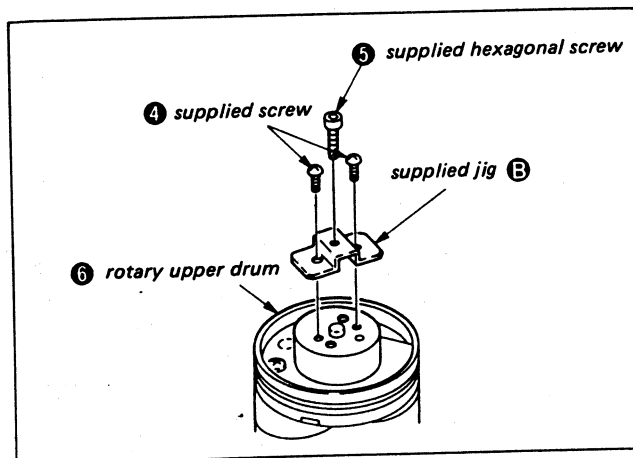

Fig. 3-43.
- 4) Mount the supplied jig B (Ref No. J-10) on the dynamic damper mounting hole with the two supplied screws ④, and mount the supplied hexagonal bolt screw ⑤ on supplied jig B, then remove the rotary upper drum ⑥. (Fig. 3-43)